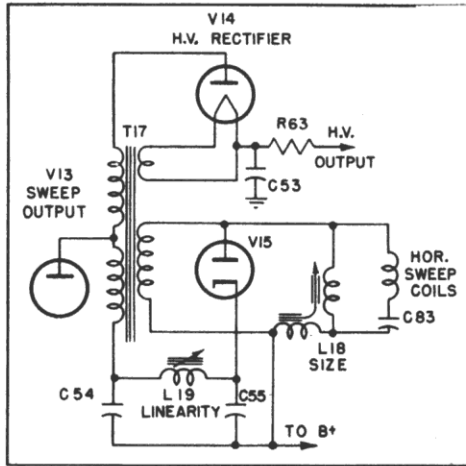

Fig. 8. Horizontal Sweep Output
**6. HORIZONTAL SWEEP OUTPUT (SEE FIGURE 8)**—The horizontal sawtooth voltage generated by the blocking oscillator, V12B, is shaped and then amplified by a Type 6BG6G tube, V13. The output of this tube is coupled to the horizontal deflection coils, D2, through an impedance matching transformer, T17. The damping tube diode, V15, is used principally to remove a transient oscillation created by the rapid retrace of the current in the high inductance of T17 and still retain the positive overshoot in the primary winding for use in the high voltage supply. It also is used to provide a linear trace and to recover some of the energy from the inductive kick-back and use it to help supply the B+ requirements of the output tube. During conduction of V15, capacitors C54 and C55 are charged up and since they are in series with the B+ voltage to tube V13, they contribute a sizeable portion of the plate voltage. The variable inductance, L19, and C54 constitute a phase shift network which alters the phase of the ripple voltage developed across C55. This means of changing the ripple voltage which also supplies part of the B+ to the output tube provides a method of controlling the linearity.
**8. HIGH VOLTAGE SUPPLY (SEE FIGURE 8)**—The high voltage for the second anode of the picture tube is derived by making use of the inductive "kick" voltage produced during retrace in the horizontal output transformer, T17. This kick voltage has a magnitude of several thousand volts and is positive-going, appearing between the plate of V13 and ground. Since this voltage in itself is not sufficient to produce the required anode potential, an additional winding connected electrically and magnetically with the primary is added to provide further step-up of this voltage. The top of this autotransformer is connected to the plate of a rectifier tube, V14. This tube is a Type 1B3GT/8016 which derives its filament voltage from the horizontal sweep transformer T17 by a single turn around the core. Since the frequency supplied the rectifier tube is high (15,750 cps), a 500 mmf. filter capacitor is more than adequate to give a smooth d-c output. Due to the small capacity of the filter, this supply is relatively safe to handle.